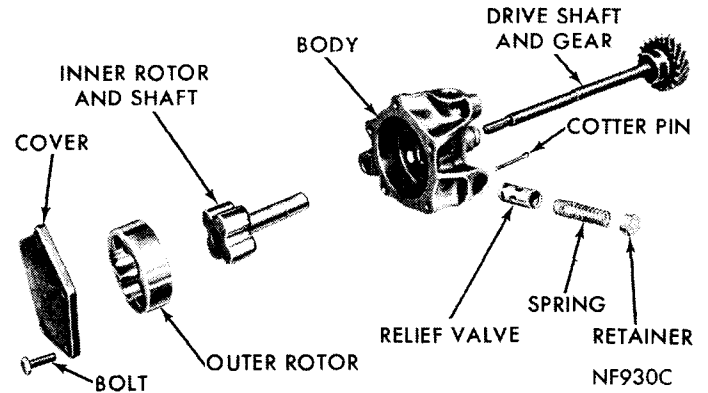

Fig. 55—Oil Pump Assembly (Disassembled View)
(2) Remove oil pump cover bolts and lockwashers, and lift off cover.
(3) Remove pump rotor and shaft, and lift out outer rotor.
(4) Wash all parts in a suitable solvent and inspect carefully for damage or wear (Fig. 55).